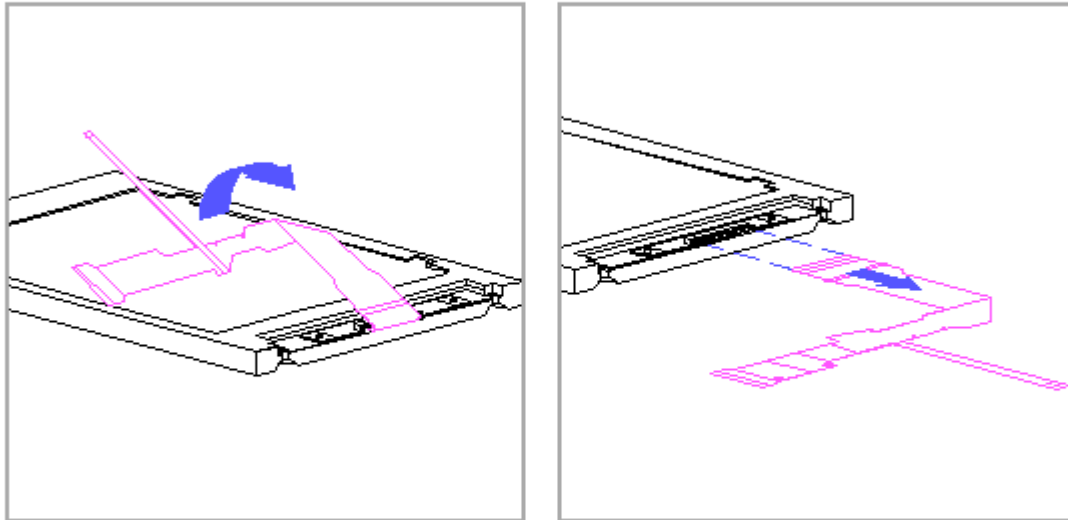

Figure 3-32. Removing the Display Cable from the Rear of the LCD Panel
4. Remove the display cable from the rear of the LCD panel by gently pulling the cable toward you (Figure 3-32).
5. Carefully lift up on the ZIF connector to release the display cable from the side of the LCD panel (Figure 3-32).